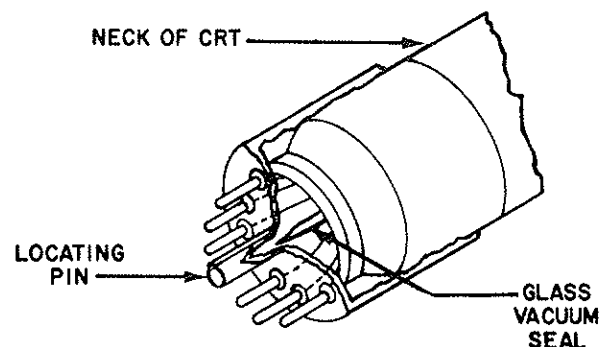

Figure 2-29.—Cathode ray tube base structure.
- Carefully break off the plastic locating pin from the base (fig. 2-29). This can be done by crushing the locating pin with a pair of pliers or vice grips.